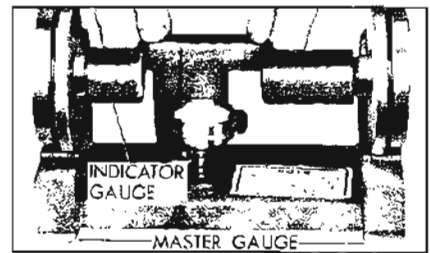

Figure 6-20—Zeroing Pinion Setting Gauge
3. Place the indicator gauge on the master gauge, as shown in Figure 6-20 so that the spring loaded center is engaged in the centering hole, and the inner, large diameter portion of each disk contacts the master gauge pads.